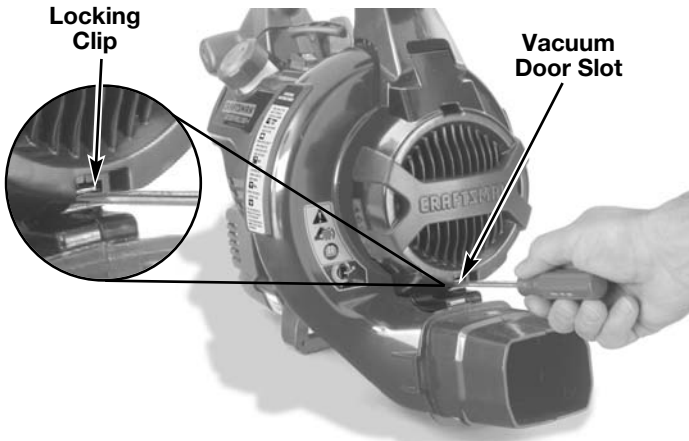

Fig. 3
3. Flip the blower/vac so it is standing straight up on the muffler cover. The front of the unit and the vacuum door should face you (Fig. 3).